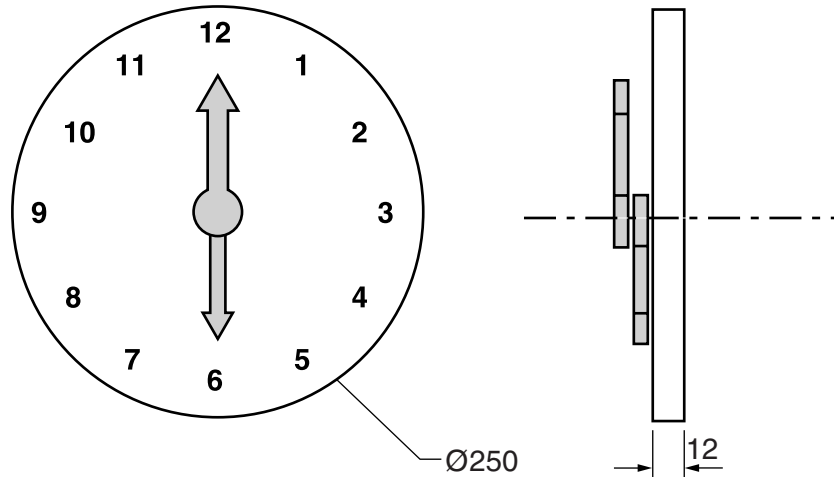

Fig. 7
- 11** Fig. 7 shows views of a clock used to teach children how to tell the time. The clock face is made from plywood and the clock hands are made from acrylic. The clock hands will be moved by the teacher.